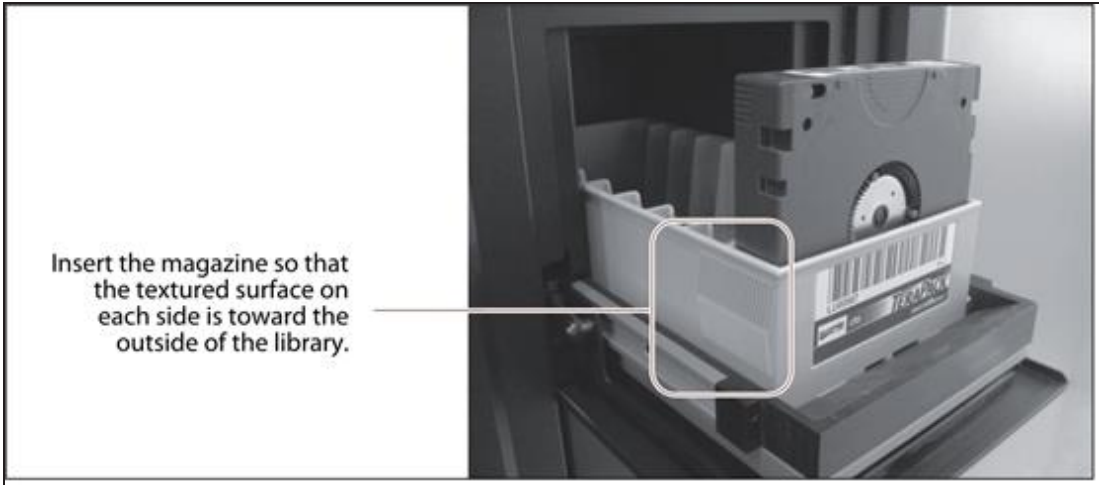

Figure 142 Insert a magazine into the TAP, making sure that it is correctly oriented.
- a. Insert a magazine into the tray on the open TAP, making sure that it is oriented with the textured surface on each side toward the outside of the library, as shown in Figure 142.